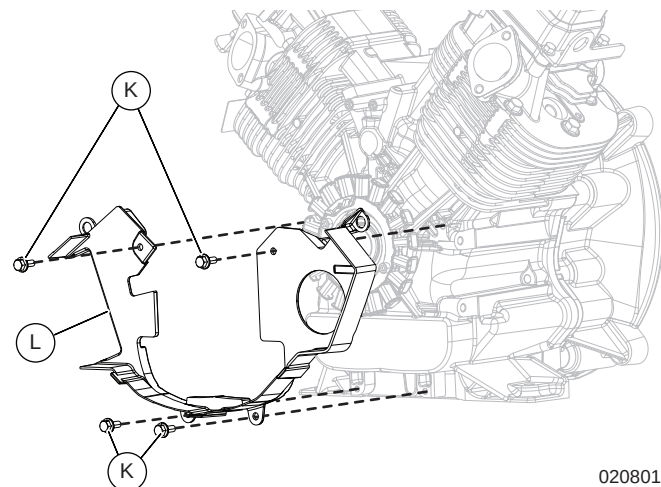

Figure 6-33. Remove Backing Plate
8. See Figure 6-33. Remove four fasteners (K) and backing plate (L) from engine.